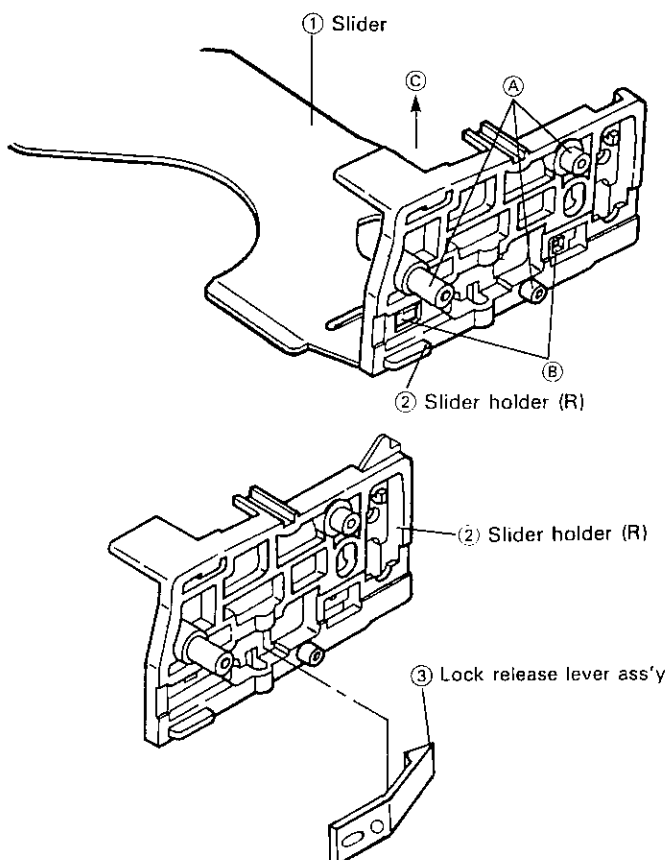

Figure 1-7.
• Removal (Fig. 1-7)
1. Turn the coupling clockwise until the slider ① comes to the cassette down position.
2. Slightly widen the cassette housing frames (R) and (L) to unhook the parts (A) of the slider holders (R) and (L) off the grooves of the above frames.
3. Press the catch (B) on the slider holder (R) ②, and let the slider ① go off this holder in the direction of arrow (C).
4. Take the lock release lever ass'y ③ out of the slider holder (R) ②.
● Reassembly (Fig. 1-7)